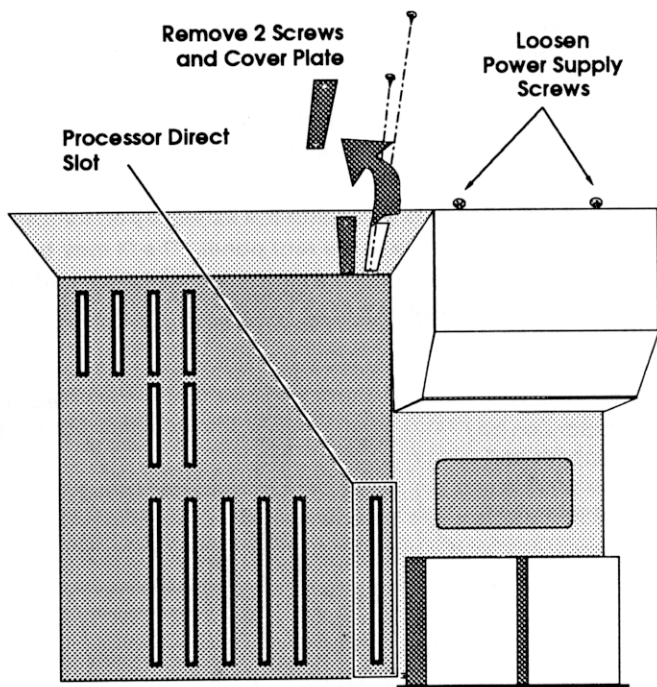

Figure 4.2 – Processor Slot location.
The A2000 G-Force '040 board uses the A2000's Processor Direct slot (see Figure 4.2). This is the multi-pin bus connector closest to the Drive Stage. There is only one way the board can fit into this slot.
- 3) Remove 2 screws and cover plate from rear panel (see Figure 4.2).
- 4) Locate the two upper screws that secure the power supply to the Amiga's rear panel. Loosen these and any other screws that prevent the rear panel from flexing (see *Figure 4.2*).